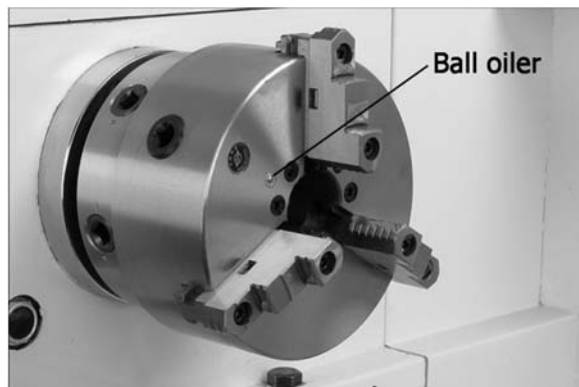

Figure 8 – Chuck lubrication
1. **Chuck** – In addition to the lubrication already described in *section 8.3*, daily lubricate the chuck with SAE 20W oil through the ball oiler, shown in Figure 8.